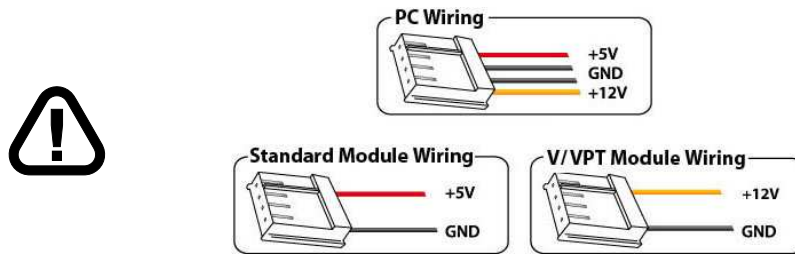

Figure 9: PC vs Matrix Orbital Display Module Wiring
- First, you will want to make sure that you are using the correct power connector. Standard floppy drive power cables from your PC power supply may fit on the Power/Data Connector however they do not have the correct pin-out as can be seen in *figure 9 on page 6*. Matrix Orbital supplies power cable adapters for connecting to a PC, which can be found in the *Accessories Section on page 2*.